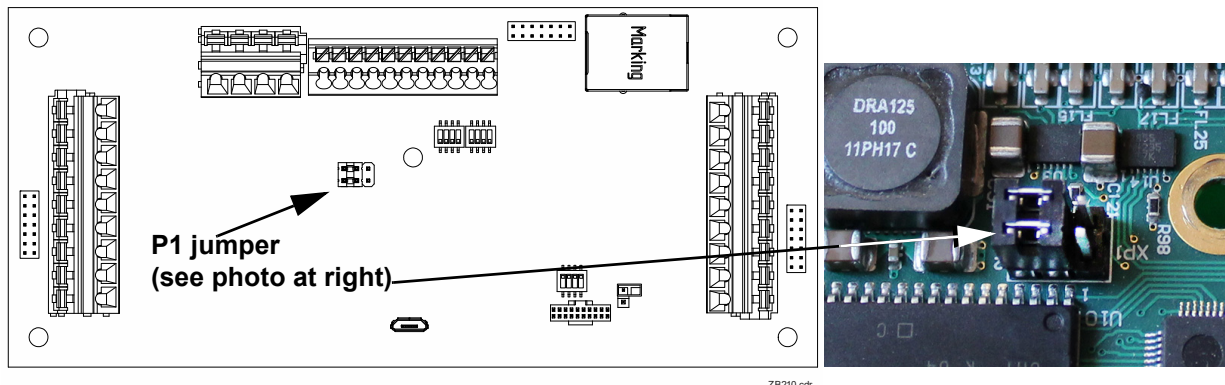

**Figure 2.8 P1 Jumper position for all ZB210 J-Boxes except the last J-Box in a chain of J-Boxes**
5. Set P1 jumper as shown in Figure 2.8 for this first ZB210 J-Box in a series.
To connect a second ZB210 J-Box, connect the interconnecting cable to TB1 in the first ZB210, shown in Figure 2.8 and connect it to TB1 in the 2nd ZB210 J-Box per the wiring labels.
If it is not the end box in a chain of ZB210 J-Boxes, set the jumper as shown in Figure 2.8. If it is the only J-Box or the terminal (end) J-Box in a series, set the jumpers as shown in Figure 2.9.